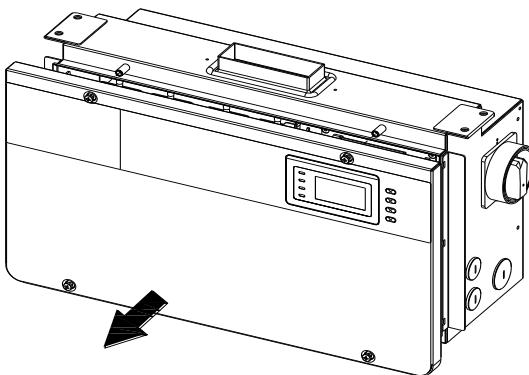

Figure 2.28 - Remove the Wiring Box Cover
- 1) Use #3 Phillips head screwdriver to loosen the 4 screws on the wiring box and take off the cover. (see Figure 2.28)